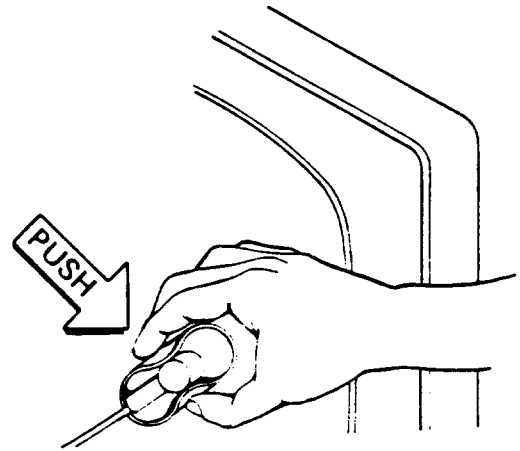

Figure 2-4. Disconnecting the CRT Anode Cap
- While holding the flange folded upwards between thumb and index finger, push against one side of the anode cap near its base (as shown in Figure 2-4) until the cap's prong on that side disengages from the CRT's anode contact;